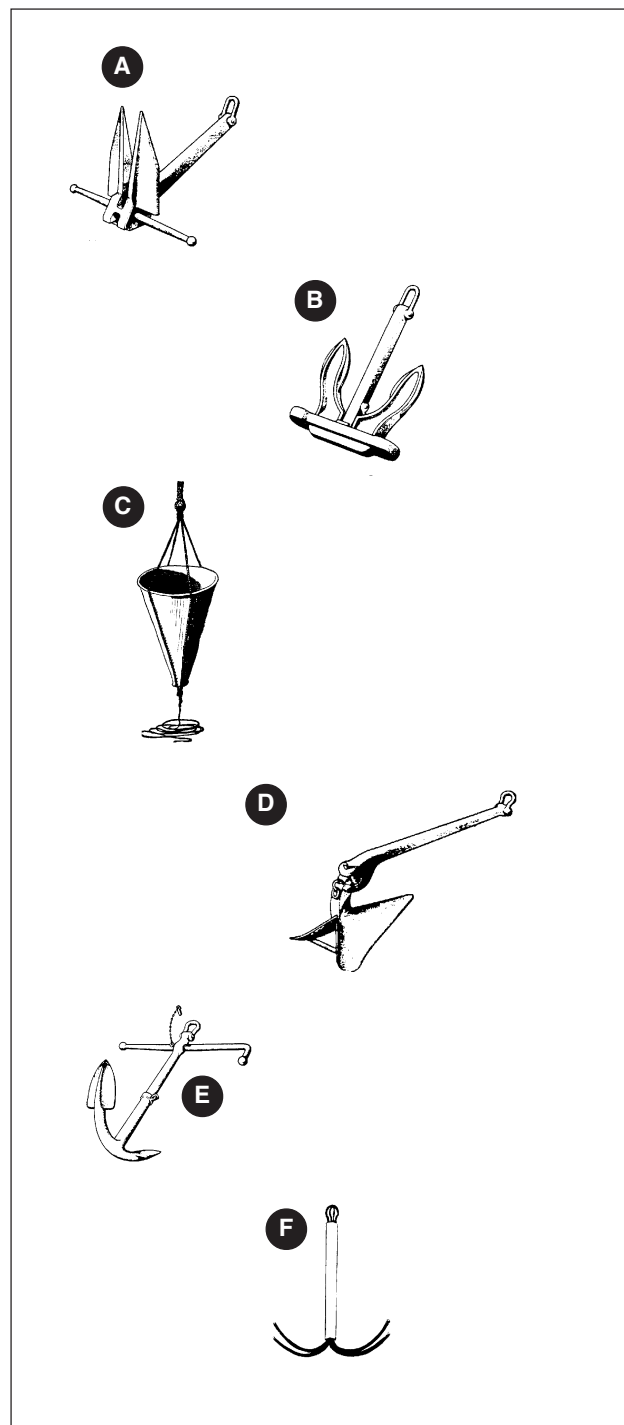

Figure 72.3 Diagram for question 11 (Illustrations courtesy Queensland Transport, Reproduced with permission)
11. Match the anchor names listed below with the appropriate pictures in Figure 72.3.